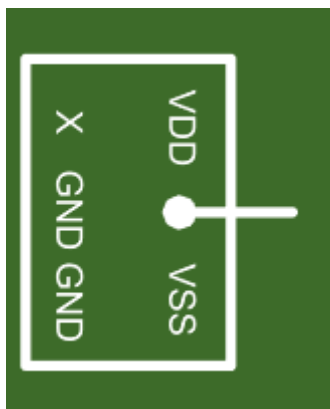
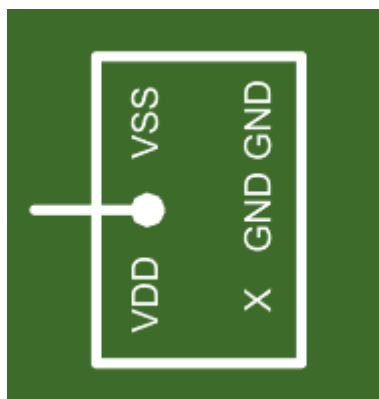

Figure 4-1. Left Side Jumper (J1-J4) Configuration or Pinout
Figure 4-2. Right Side Jumper (J5-J8) Configuration or Pinout
3. All 8 generic signal pathway headers contain six pins. Figure 4-1 and Figure 4-2 show the generalized pinout of the headers for the left and right side of the board respectively. Please note that the orientation is based on J10 being on the top of the board.